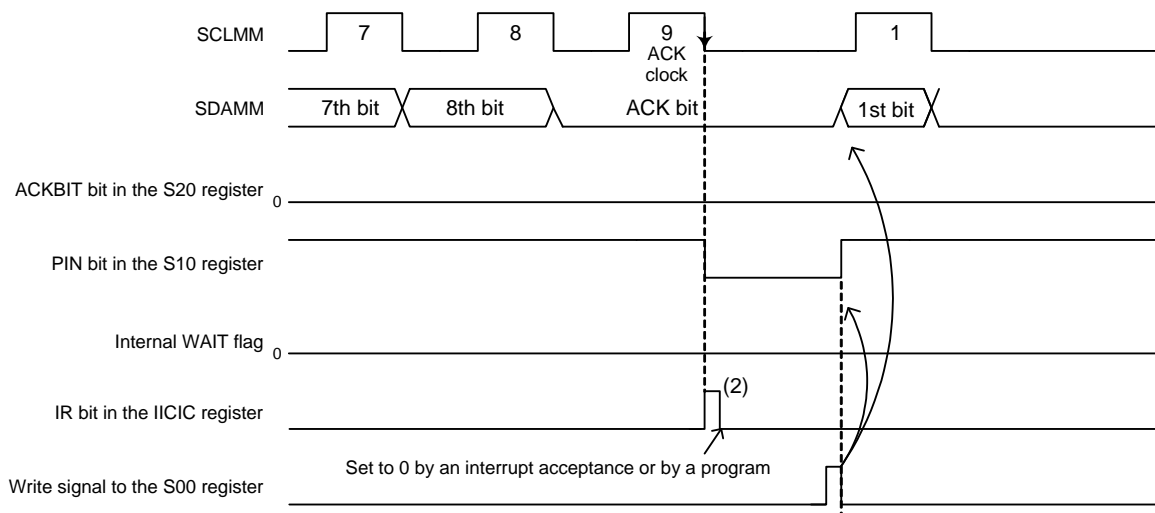

Figure 25.4 Interrupt Request Generation Timing in Receive Mode
Table 25.6 lists an interrupt request generation timing and the conditions to restart transmission/reception during data reception. Figure 25.4 shows Interrupt Request Generation Timing in Receive Mode.
1. See the timing of (1) on the IR bit in the IICIC register in Figure 25.4.
2. See the timing of (2) on the IR bit in the IICIC register in Figure 25.4.